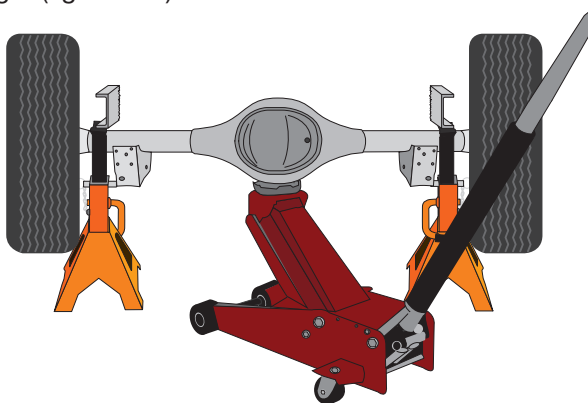

fig. 2
1. Support the axle with jack stands, remove the wheels and raise or lower to obtain normal ride height (figs. 2 & 3).